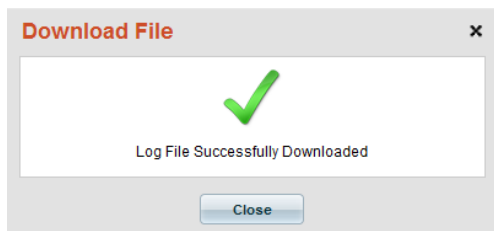

FIG. 453 Download File dialog
3. The system will indicate when the download is complete in the *Download Log File* dialog (FIG. 453):